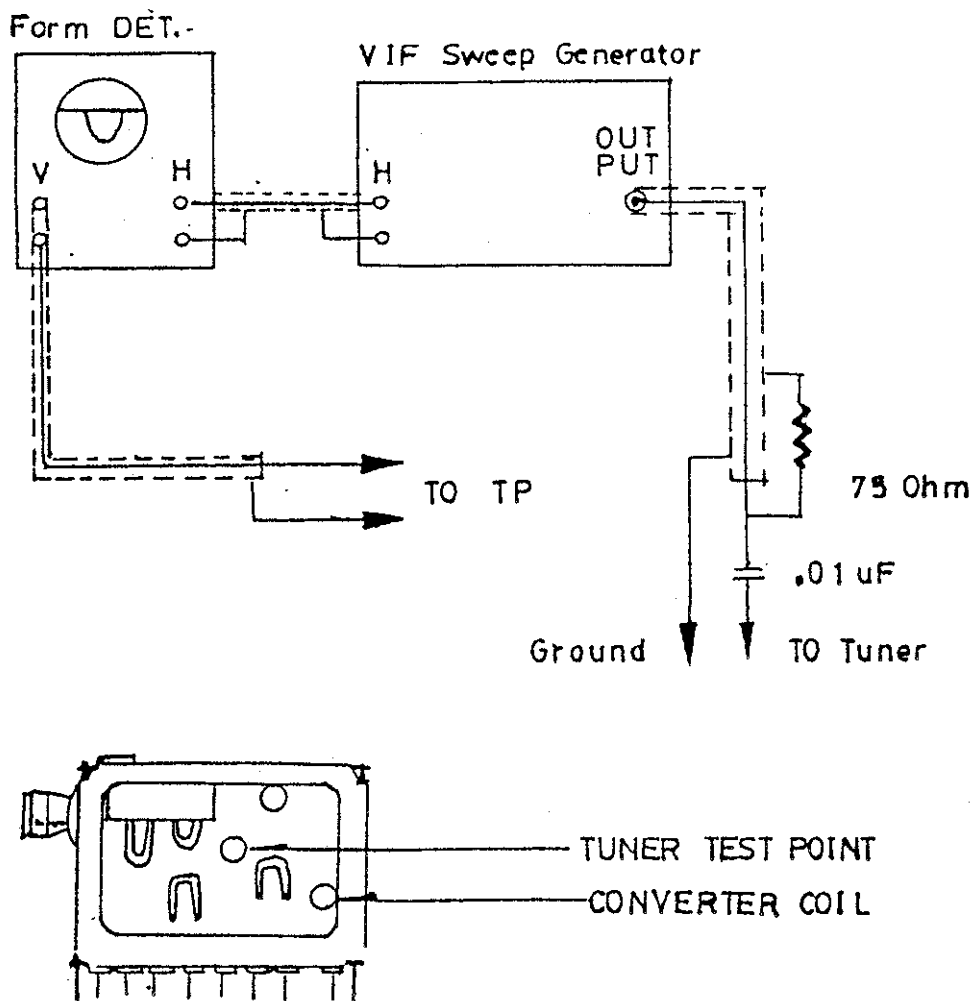

Fig.1
A. Preparation Step (See Fig. 1)